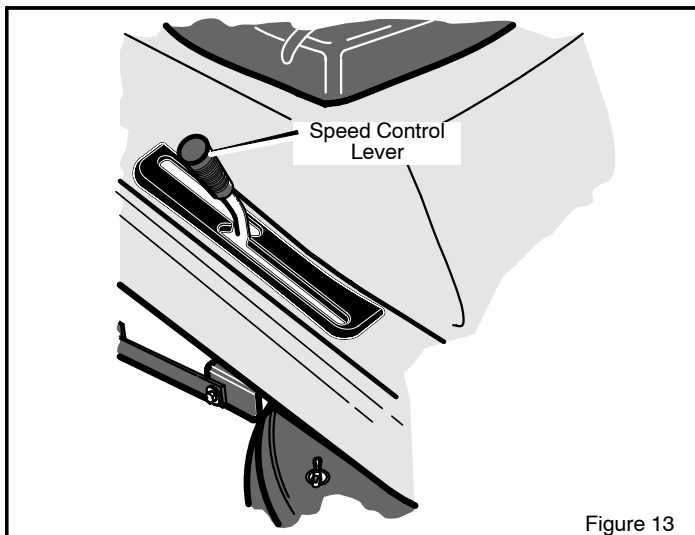

Figure 13
4. To go faster, move the speed control lever to a faster speed (see Figure 13).